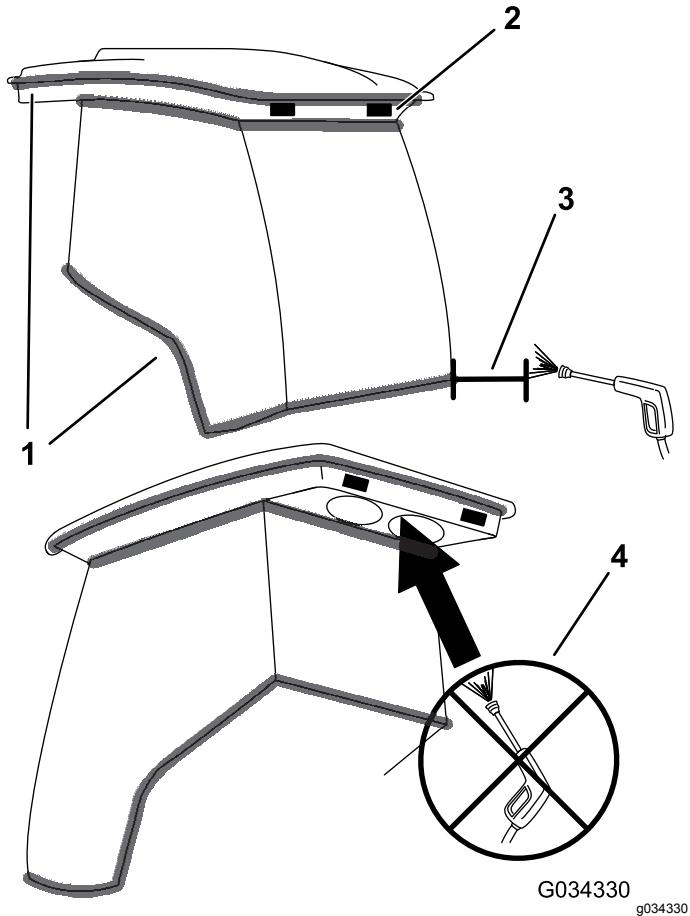

Figure 119
**Important:** Use care around cab seals and lights (Figure 119). If you are using a pressure washer, keep the washer wand at least 0.6 m (2 ft) away from the machine. Do not use pressure washer directly on cab seals and lights or under rear overhang.